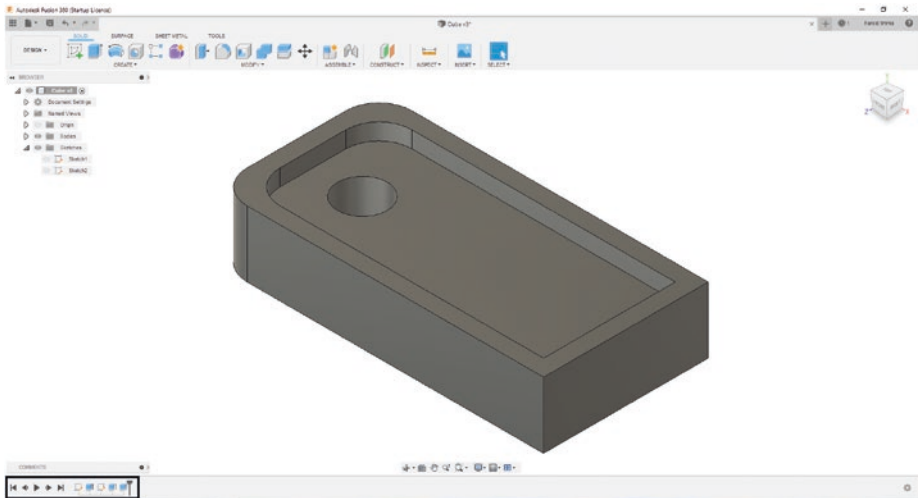

Figure 3-80. Move the Design History Bar slider all the way to the right
- 38. Move the History slider to the very end and see the result! See Figure 3-80.